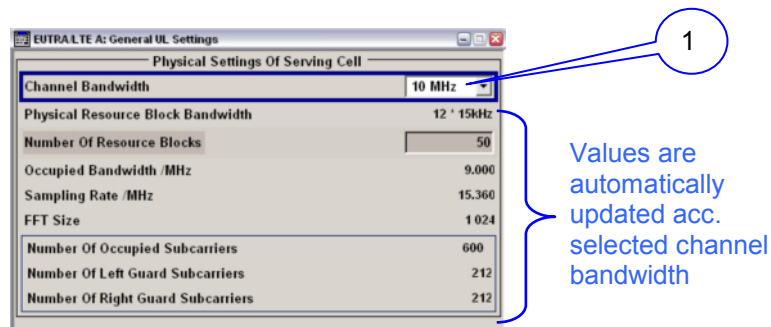

Figure 5-3 SMU EUTRA/LTE UL settings – General UL settings
- ①. Enable EUTRA/LTE BB → it's recommended to enable baseband after configuring signal, otherwise signal calculations are triggered with any single modification
- ②. Set EUTRA/LTE menu to default settings
- ③. Save or recall EUTRA/LTE settings
- ④. Save datastream to ARB compatible \*.wv file
- ⑤. Set signal link direction
- ⑥. Sub-menu for general UL signals (Figure 5-3)